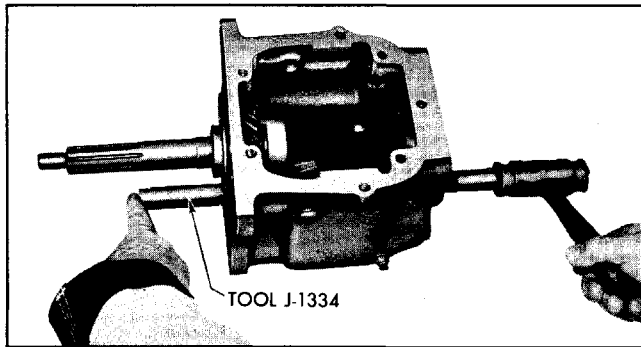

Fig. 7-37 Installing Countershaft
8. Holding countergear in place in case, force tool J-1334 out of countergear by tapping countergear shaft inward from rear of case. See that tool J-1334 and shaft are in contact at all times so roller bearings do not drop out of position (Fig. 7-37).